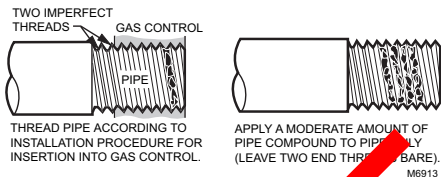

Fig. 3. Use moderate amount of pipe compound
4. Apply a moderate amount of good quality pipe compound (do not use Teflon tape) to pipe only, leaving two end threads bare. On LP installations, use compound resistant to LP gas. See Fig. 3.